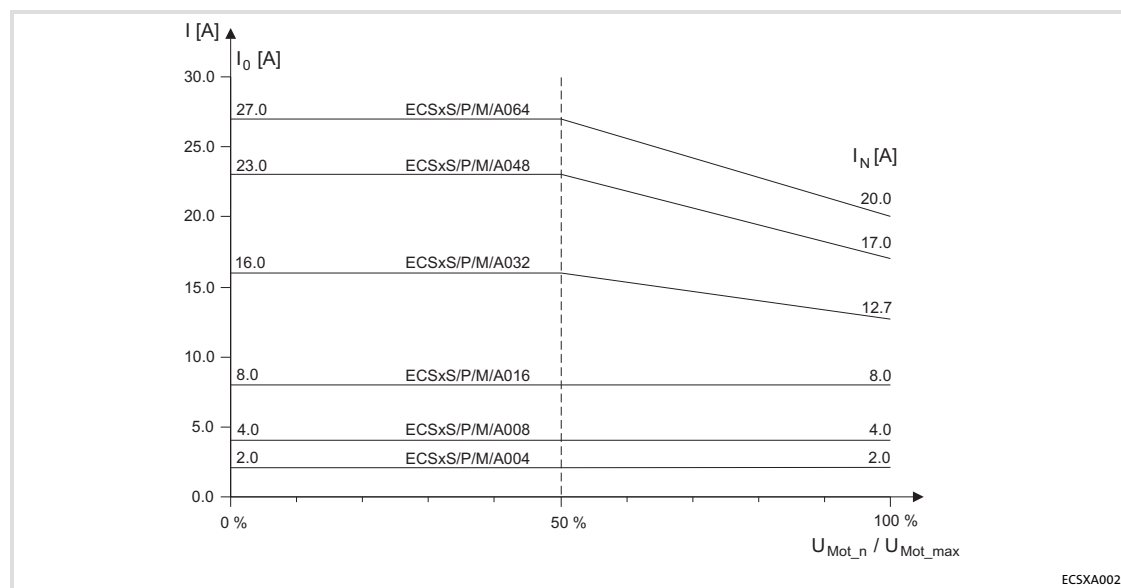

Fig. 3-1 Continuous device current, depending on the output voltage for $U_{mains} \leq 400$ V at 4 kHz
Using the current characteristic of Fig. 3-1 (36), a continuous current of 15.5 A can be determined for the ECSxA032 axis module when the control factor (α_{max}) is 59 %.